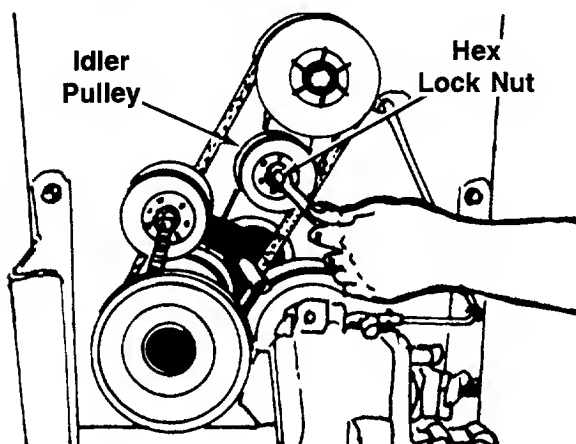

FIGURE 32.
8. Remove the idler pulley by removing the hex lock nut. See figure 32.